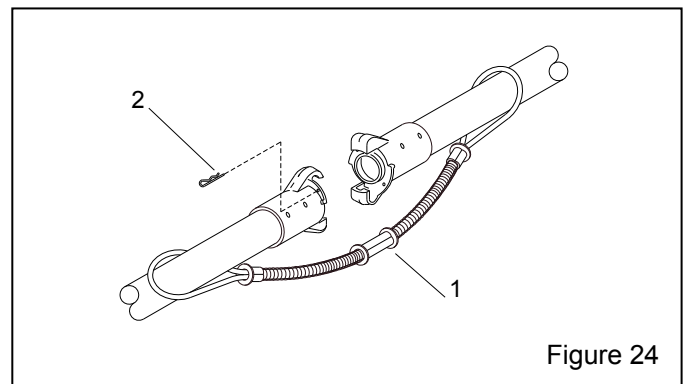

Figure 24
8.2 Hose Safety Accessories, Figure 24